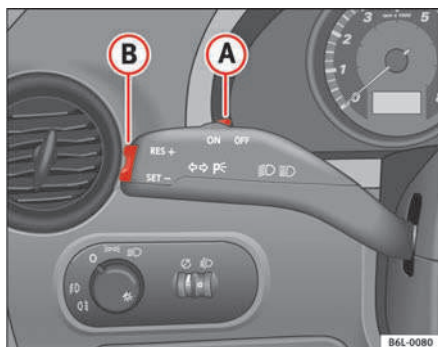

Fig. 104 Turn signal and main beam headlight lever switch and rocker switch for the cruise control
- Press the upper part **RES** of the rocker switch ⇒ fig. 104 (B) to increase the speed. The vehicle will continue to accelerate for as long as you keep the rocker switch pressed. When you release the switch, the new speed is stored.
Control of the set speed is switched off if you reduce speed by depressing the brake pedal. Reactivate the control by pressing once on the upper part of the rocker switch **RES+** ⇒ fig. 104 (B).